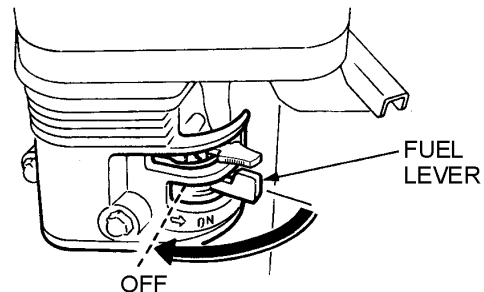

Figure 22. Fuel Valve Lever (OFF)
3. Place the fuel shut-off lever (Figure 22) in the "OFF" position.